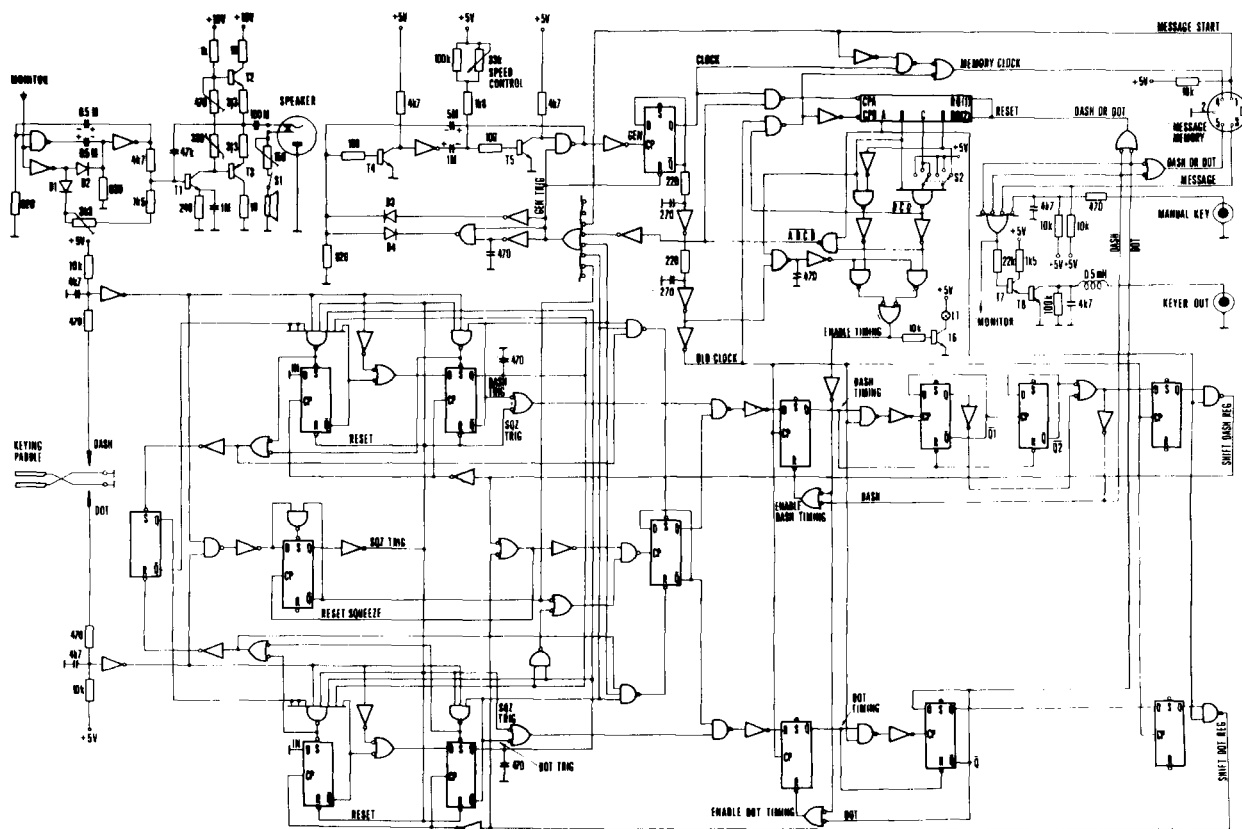

fig. 6. Schematic diagram of the advanced electronic keyer.
**Clock generator.** As shown in **fig. 6**, the schematic diagram, the clock pulses are generated by transistors  $T_4$ ,  $T_5$ , and the associated logic. In the initial state, the clock generator is off since GEN TRIG is low (0). The signal GEN TRIG is the logical sum of DASH TRIG, DOT TRIG, SQZ TRIG, MESSAGE START, and  $A \cdot B \cdot C \cdot D$ . Because of the low from GEN TRIG,  $T_4$  is turned on by the current flowing through D3 and subsequently  $T_5$  is also turned on. At the instant the paddle is closed, GEN TRIG goes high, enabling the clock generator. Simultaneously, a short, negative pulse is formed by the gates connected to D4. This negative pulse turns off  $T_4$  and starts the generation of clock pulses. This circuit philosophy allows the generator to start in synchronization with the paddle. The clock pulses (GEN) are perfectly formed, the first pulse being the same as the following ones. The clock frequency is continuously variable and corresponds to speeds of 10 to 50 words per minute.